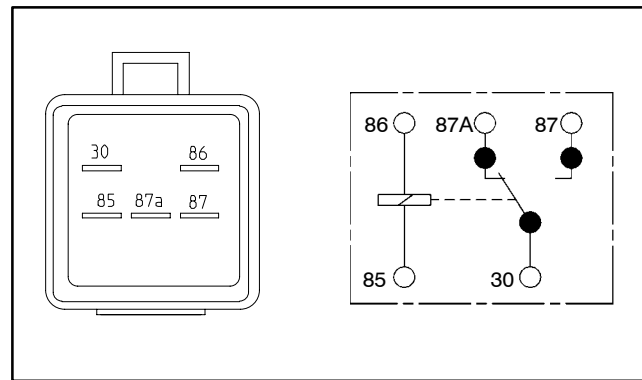

Figure 23
3. Using a multimeter (ohms setting), measure coil resistance between terminals 85 and 86 (Fig. 23). Resistance should be between 70 and 90 ohms.